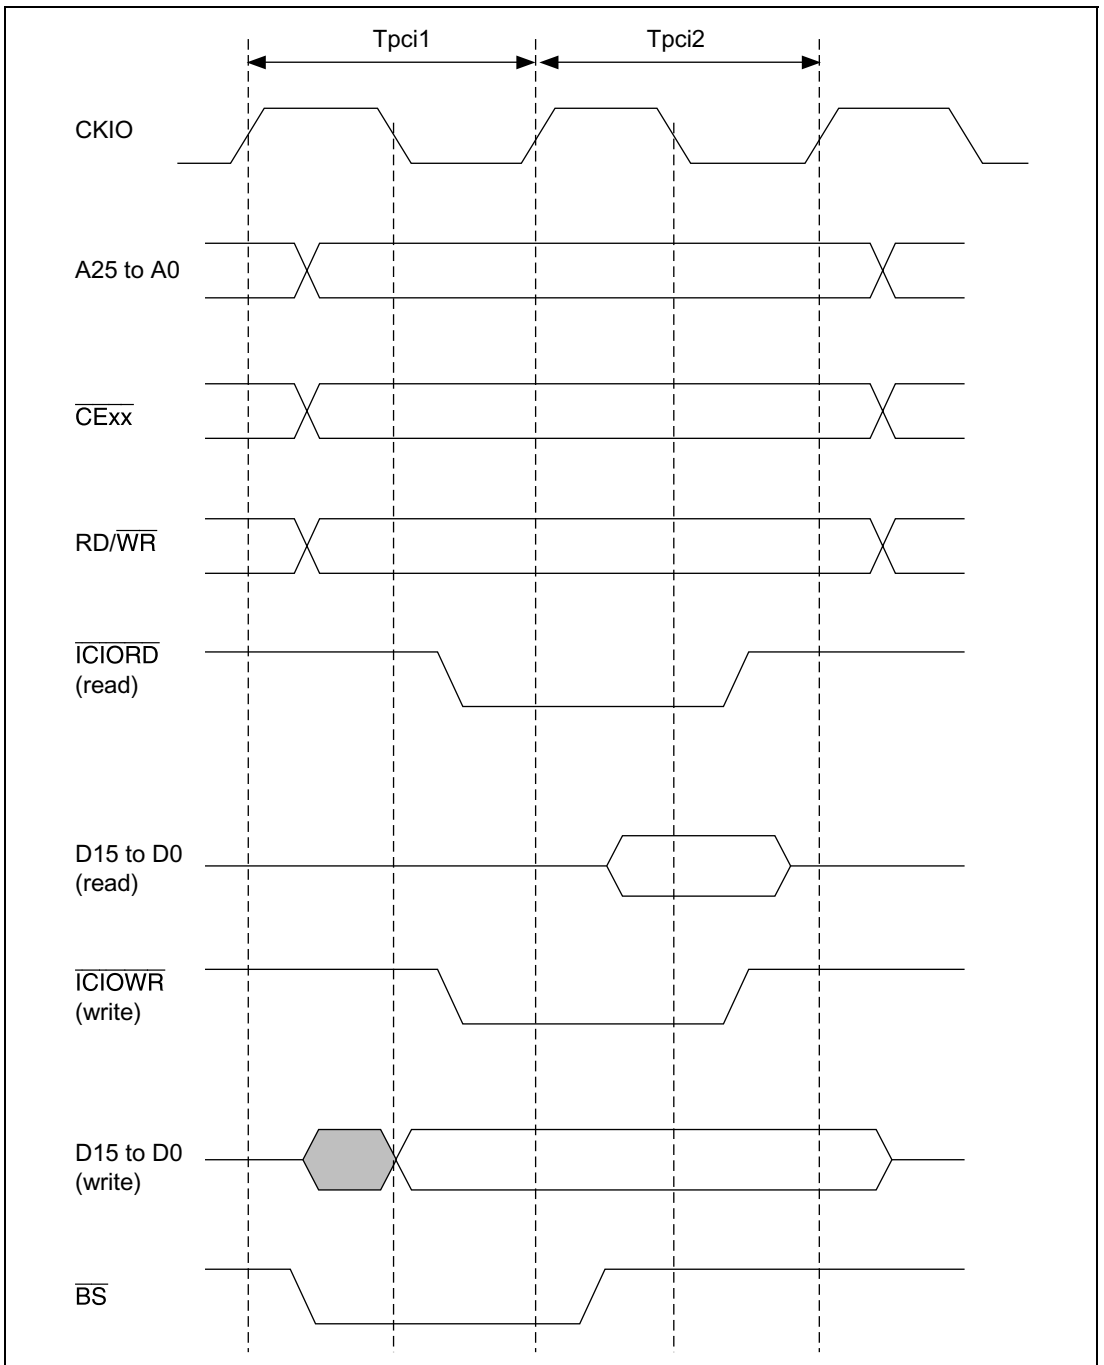

**Figure 12.30 Basic Timing for PCMCIA I/O Card Interface**
**I/O Card Interface Timing:** Figures 12.30 and 12.31 show the timing for the PCMCIA I/O card interface.